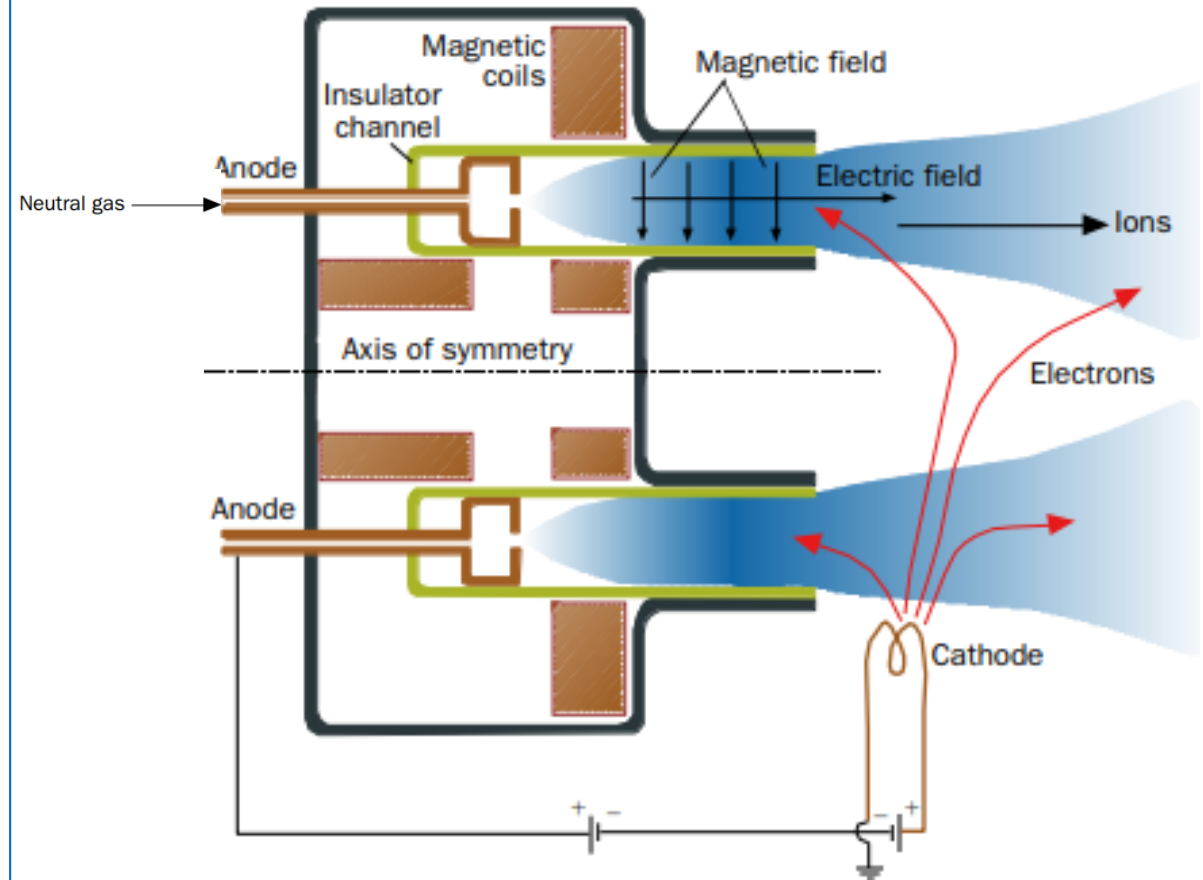

Figura 6: Schema di un propulsore ionico ad effetto hall
- Figura 6, <https://web.archive.org/web/20070316160623/http://www.aip.org/tip/INPHFA/vol-6/iss-5/p16.pdf>